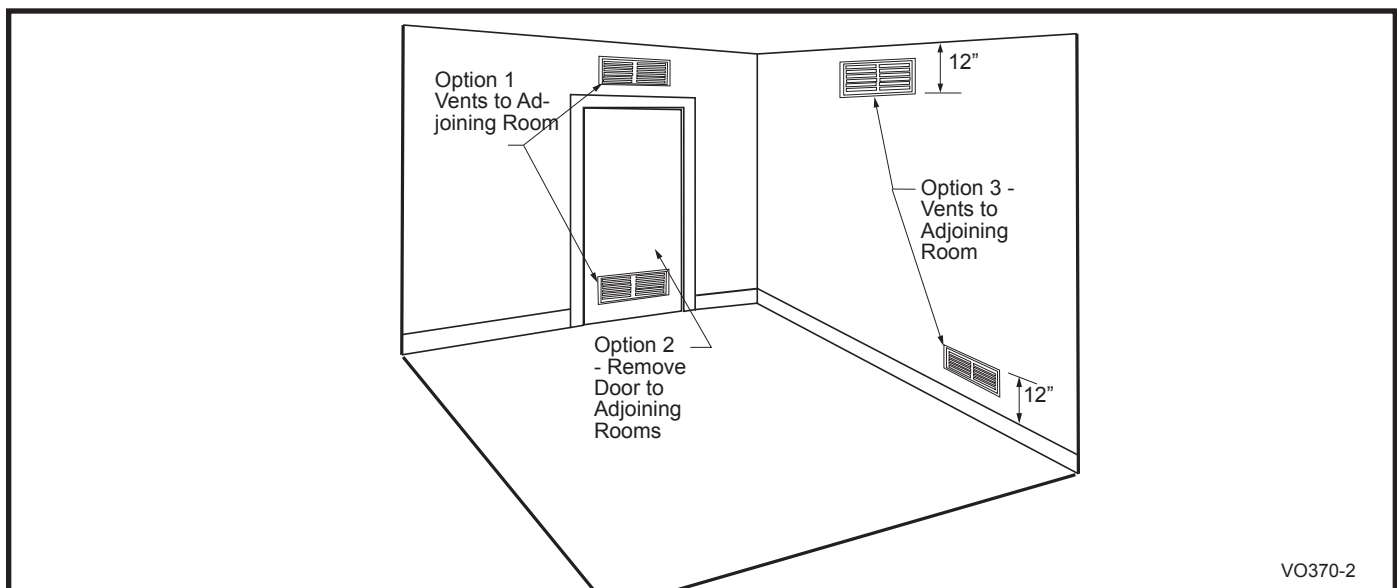

Fig. 3 Vent options to provide additional air.
A) Open up or provide at least two ventilating grilles to an adjoining unconfined space. Use any of the options illustrated in Figure 3.